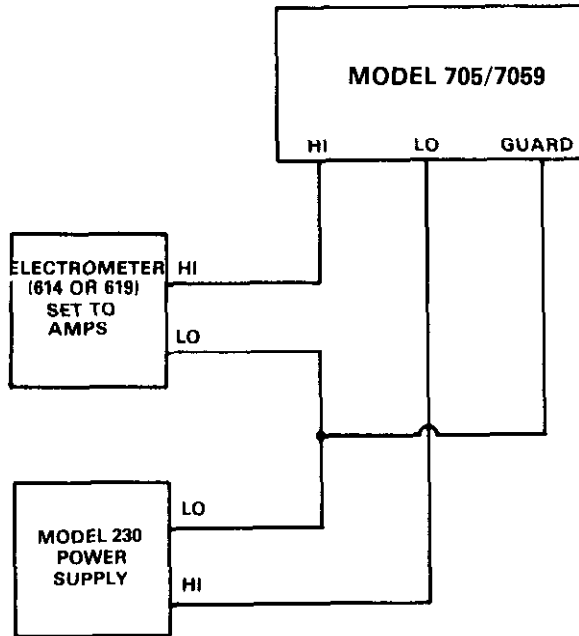

Figure 7. GUARD Differential Isolation Test Set Up
- A. This test measures the differential input isolation which is the leakage resistance between a guarded channel's HI and LO connections. Set up the test circuit shown in Figure 7.